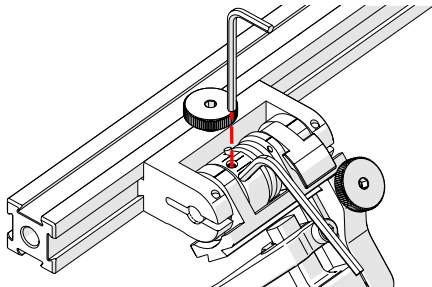

Fig. 55 - Insert hex wrenches
4. Place the 2 mm hex wrench into the force adjustment screw (Fig. 55).